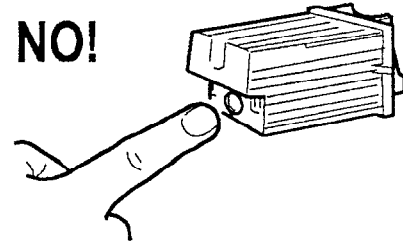

**Fig. 7-56**
- 2) Release the display from latch F and extracted it from its guide (Fig. 7-56):